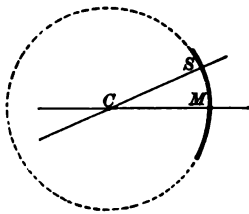

FIG. 389.—Center of a curved mirror.
**421. Curved mirrors.** A curved mirror is usually spherical; that is, it is a portion of the surface of a sphere. If it is a portion of the **outer** surface, it is called a **convex** mirror; if it is a portion of the **inner** surface, it is called a **concave** mirror. The center of the sphere, of which the curved mirror is a portion, is called the **center of curvature** ( $C$  in Fig. 389). The line  $CM$  connecting the middle of the mirror  $M$  with the center of curvature  $C$  is called the **principal axis**. Any other straight line through the center of curvature, such as  $CS$ , is called a **secondary axis**. It will be noted that any axis is perpendicular to the reflecting surface.